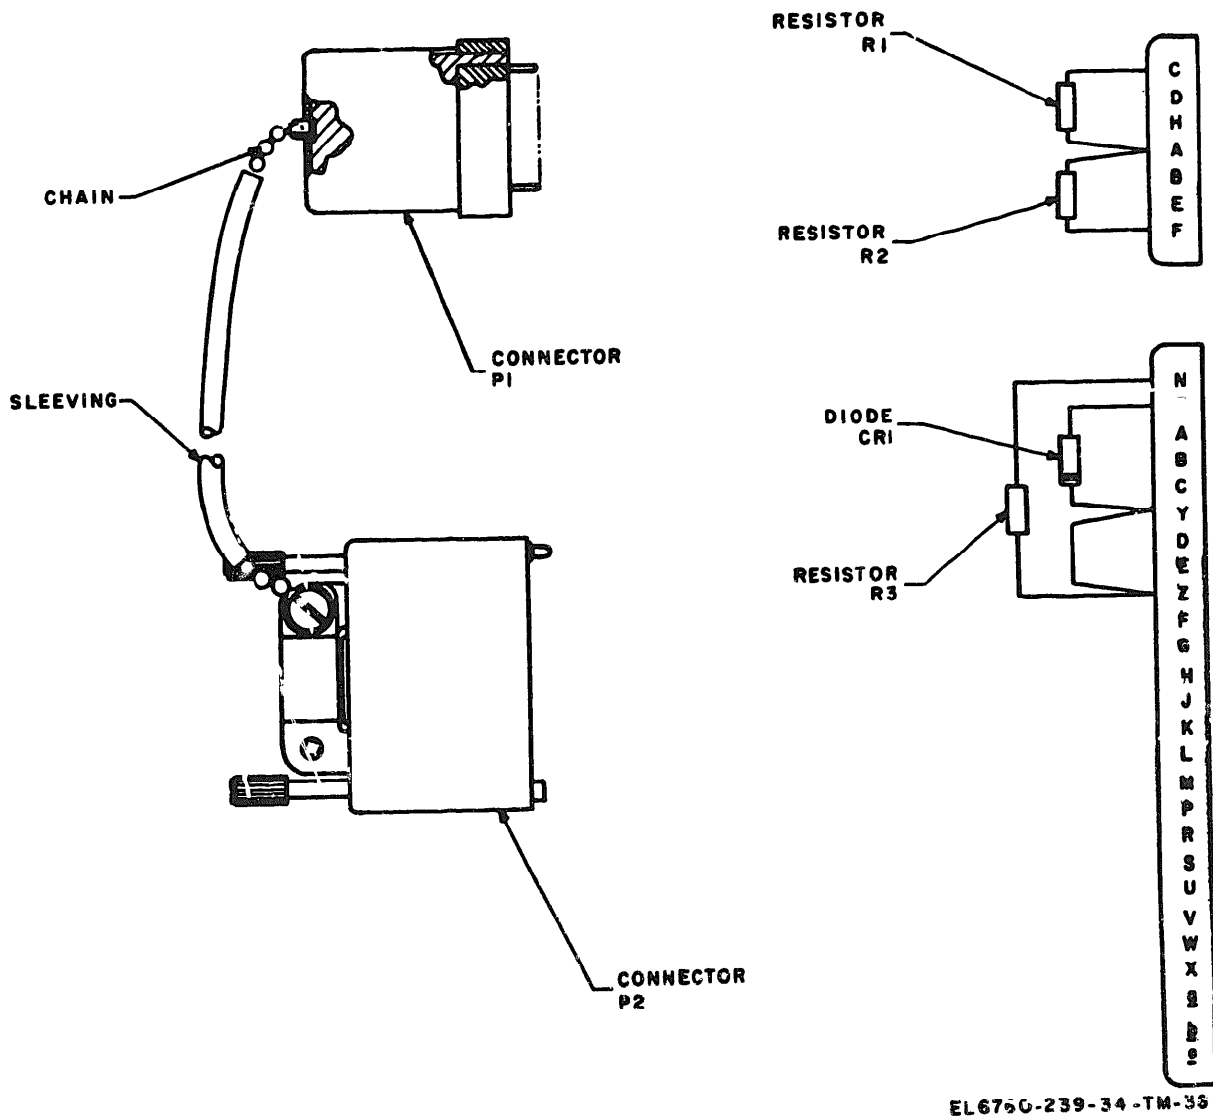

Figure 3-4. Exposure test adapter parts location.
b. Exposure Test Adapter. Disassembly and reassembly of the exposure test adapter is obvious from the parts location drawing (fig. 3-4) and upon inspection of the adapter. Perform the disassembly and reassembly procedures on the exposure test adapter in accordance with figure 3-4.